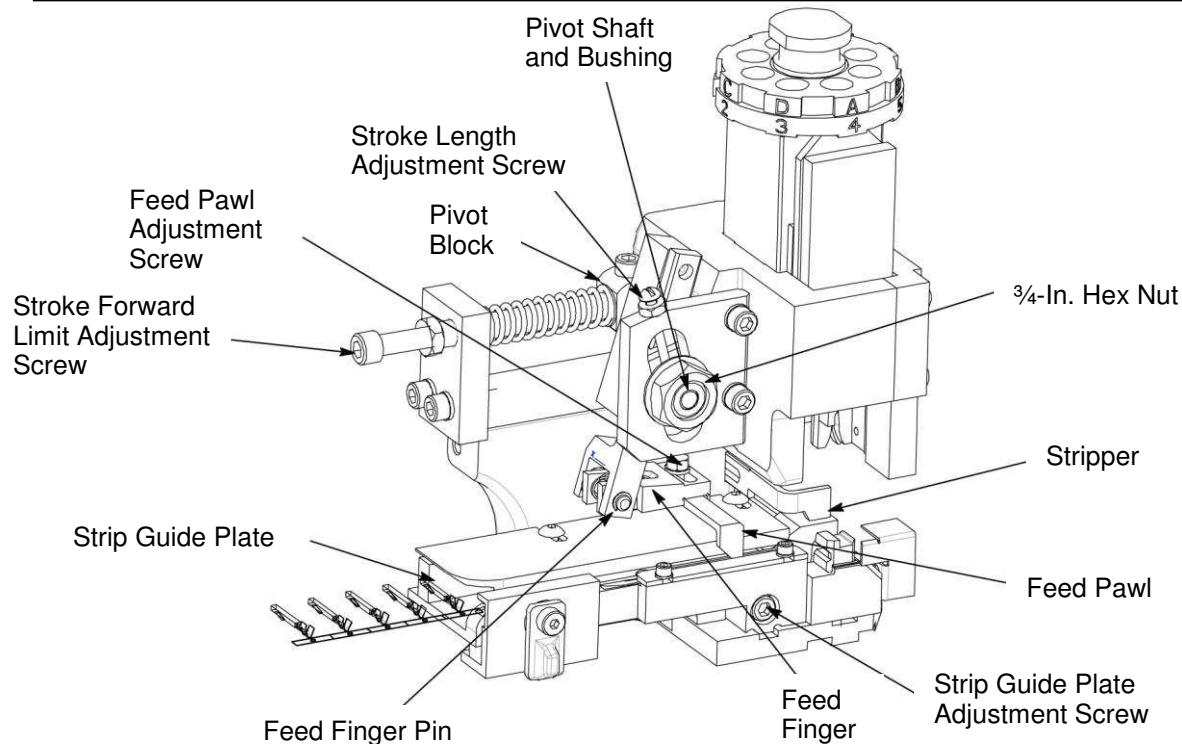
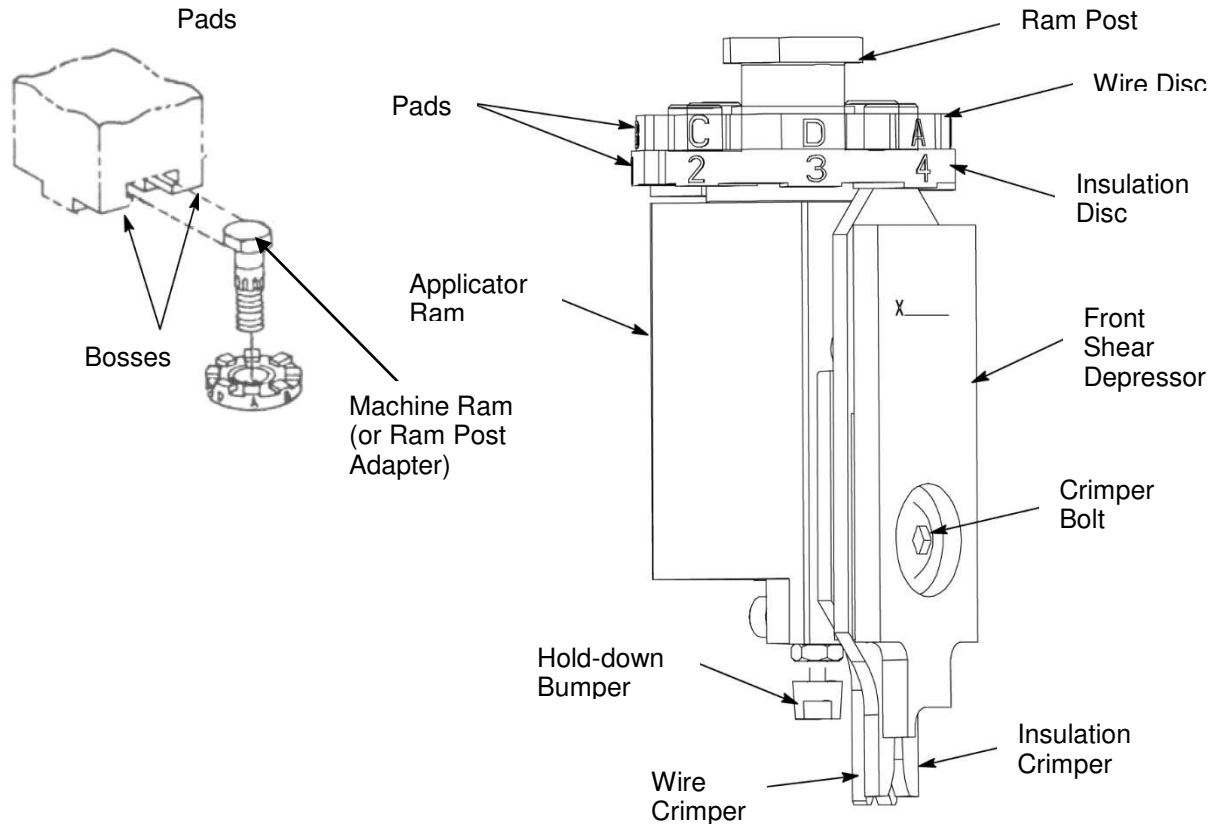
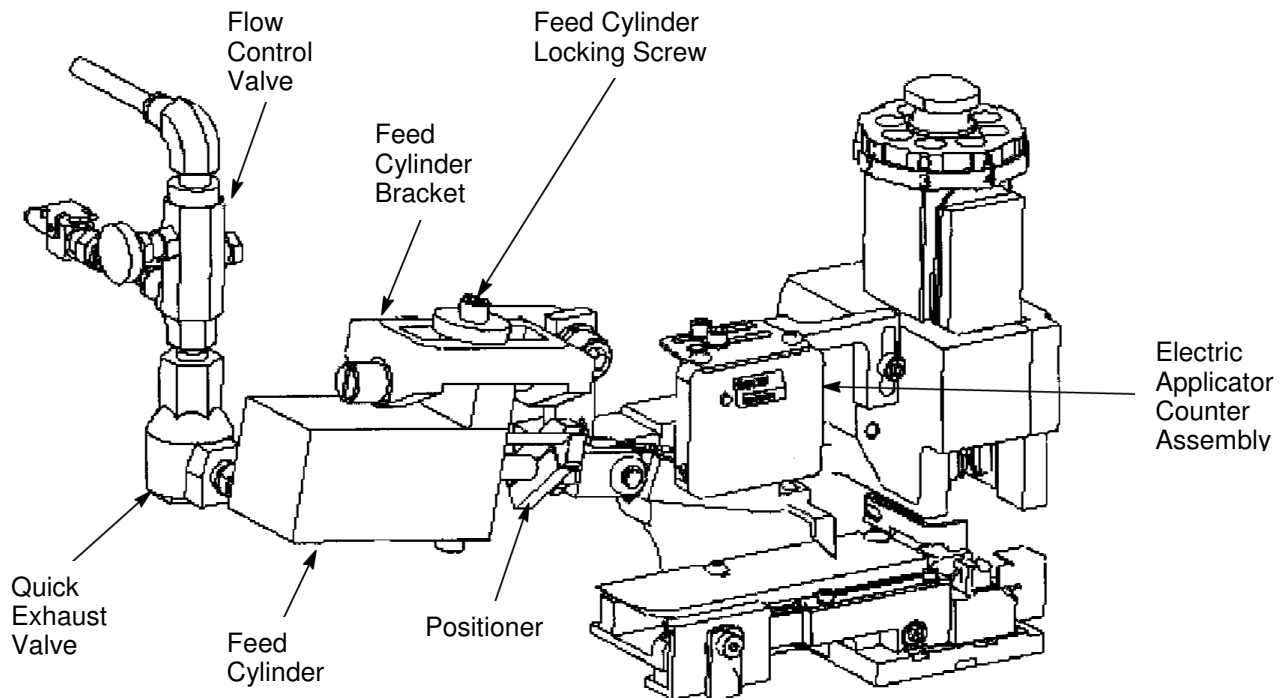

Figure 2
Figure 3
Figure 4
The main components of the applicators with mechanical feed are identified in Figure 1 and Figure 2. The ram assembly is shown in detail in Figure 3.
Just below the ram post are the wire disc and insulation disc. The wire disc has as many as four pairs of pads, depending on the number of different wire sizes the terminals will accept. Each pair of pads has a different height. By rotating the disc, each pair of pads can be lined up with the two bosses on the ram post adapter (see Figure 3) to change the length of stroke of the wire crimper over the anvil. The insulation disc contains eight pads of different heights. When this disc is turned, the pads line up with the top of the insulation crimper to change the insulation crimp height.
2. Turn wire disc (upper disc) to line up selected pad letter with BOSSES ON MACHINE RAM (or RAM POST ADAPTER (reference Figure 3). This provides the right crimp height for that wire size.
3. Loosen screw on top of pivot block (see Figure 2). Turn the stroke forward limit adjustment screw COUNTERCLOCKWISE to move the forward limit toward anvil, or CLOCKWISE to move the forward limit away from anvil. Tighten screw on top of pivot block.
a. **Applicator with mechanical-feed systems** (Figure 2)
- (1) Loosen screw on top of pivot block.
- (2) Turn stroke forward limit adjustment screw COUNTERCLOCKWISE to move forward limit toward anvil, or CLOCKWISE to move forward limit away from anvil.
- (3) Tighten screw on top of pivot block.
b. **Applicator with air-feed systems** (Figure 4)
- (1) Loosen slightly the feed cylinder locking screw on top of feed cylinder bracket (see Figure 4).
- (2) Turn on-off valve to the "off" position (AMP-O-LECTRIC machine), or disconnect air supply to feed cylinder (automatic equipment). Feed finger should retract.
- (3) Turn feed adjustment screw CLOCKWISE to RETRACT forward limit or COUNTERCLOCKWISE to EXTEND forward limit of stroke.